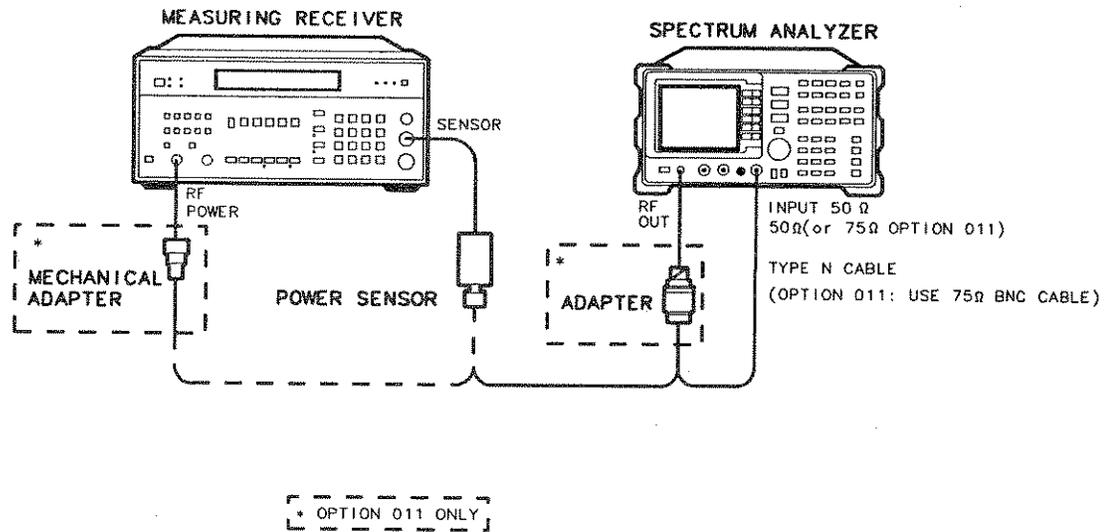

Figure 3-28. Tracking Generator Level Flatness Test Setup
- Connect the Type N cable between the RF OUT 50 Ω and INPUT 50 Ω connectors on the spectrum analyzer. See Figure 3-28.